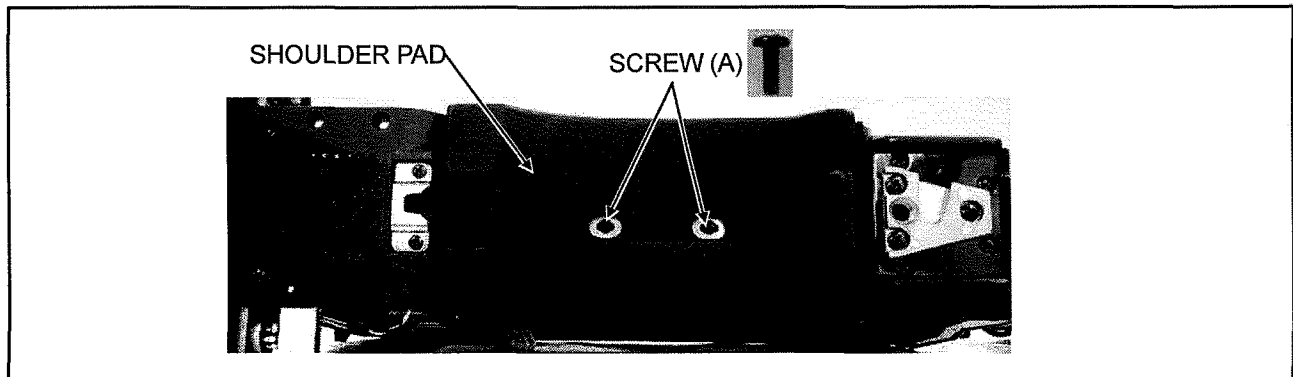

Figure 7-1
3. Unscrew the 2 screws (A) as shown in figure 7-1 and remove the SHOULDER PAD.
3. Remove the SHOULDER PAD and BOTTOM CASE (Refer to figure 7-1 and 7-2).